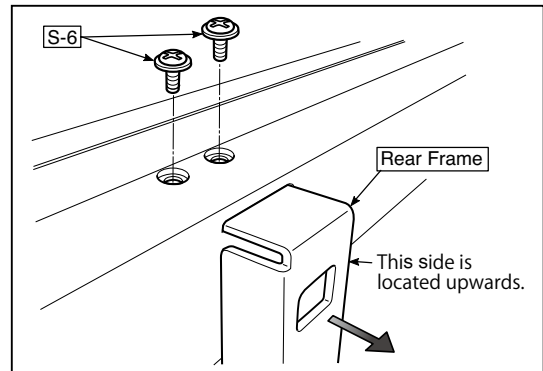

Fig.23
10) Remove the Rear Frame. (See Fig. 23)
1. Remove the "S-6" screws shown in the figure 23 and then remove the Rear Frame (two).